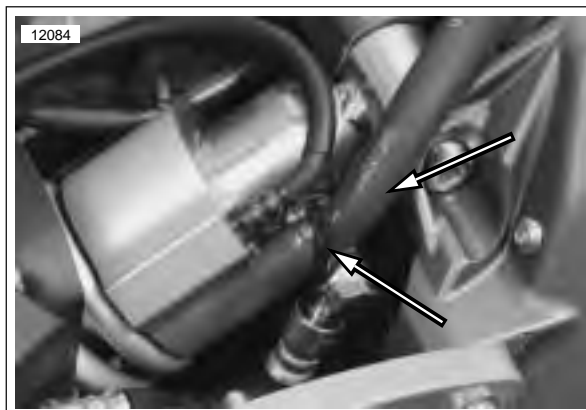

Figure 3-25. Transmission Vent Line
34. See Figure 3-25. Cut the cable strap holding transmission vent line and pull vent line out of frame leaving it attached to engine.